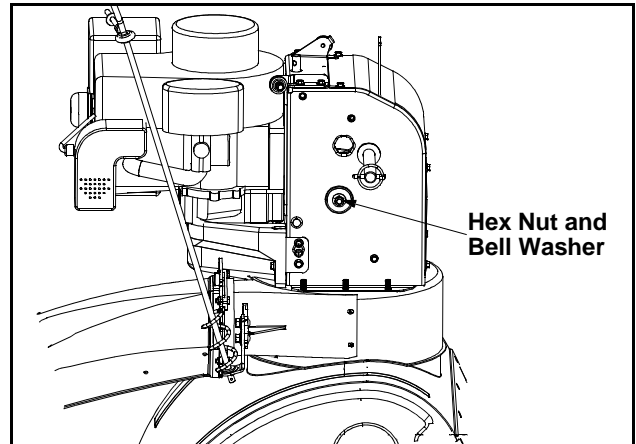

Figure 24
2. Tip the snow thrower up and forward, so that it rests on the housing. See Figure 24.
5. Using a wrench to hold the shaft, loosen, but do not completely remove, the hex nut and bell washer on left end of gear shaft. See Figure 24.